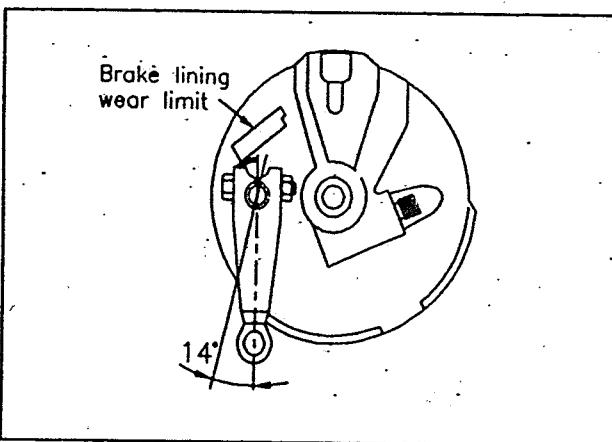

Fig 6.24
- Install the brake cam lever as shown in illustration (fig 6.24)